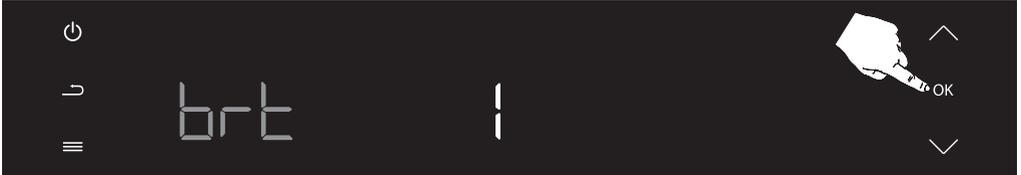

Figure 67
Press the Confirm button (OK) once to confirm the brightness setting. (see figure 67)